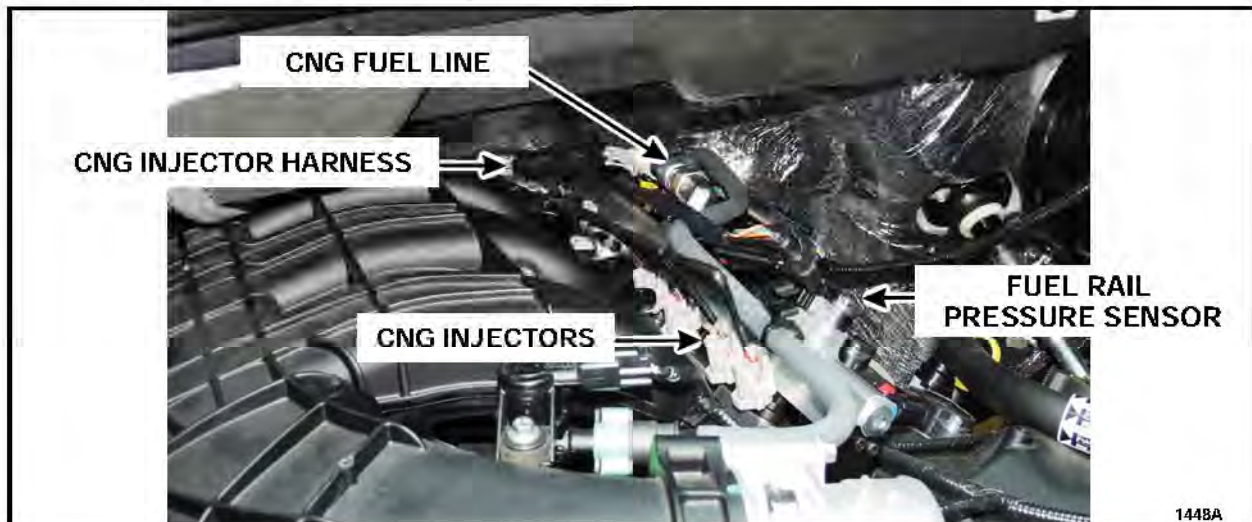

FIGURE 8
7. Disconnect and cap the CNG fuel line and the fuel rail connection using suitable covers. See Figure 8.
8. Disconnect the CNG main harness connector, fuel rail pressure sensor connector, and the six CNG injector connectors, then remove the CNG injector harness. See Figure 8.
8. Connect the CNG fuel line. See Figure 8.
9. Install the CNG injector harness. Connect the CNG main harness connector, fuel rail pressure sensor connector, and the six CNG injector connectors. See Figure 8.